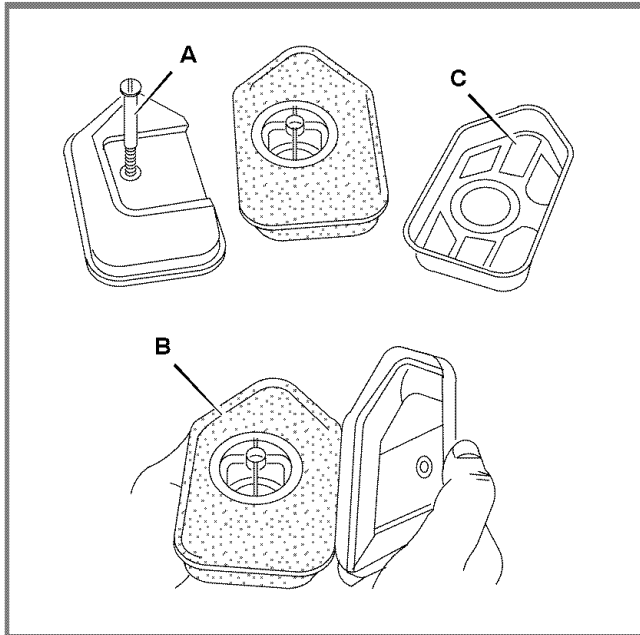

Figure 22: Change Air Filter
- 2 Remove screw (A) as illustrated in Figure 22.
- 4 Take the air cleaner apart and clean all parts. If the filter (B) is very dirty or damaged, replace it with a new filter.